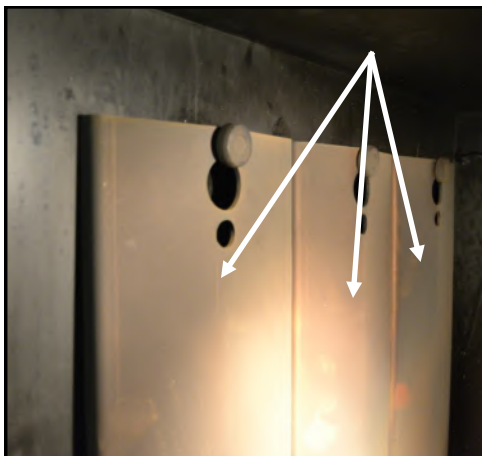

Fig. 4.10 Firebox Aprons
2. Lift and remove the firebox aprons (**Fig.4.10**).